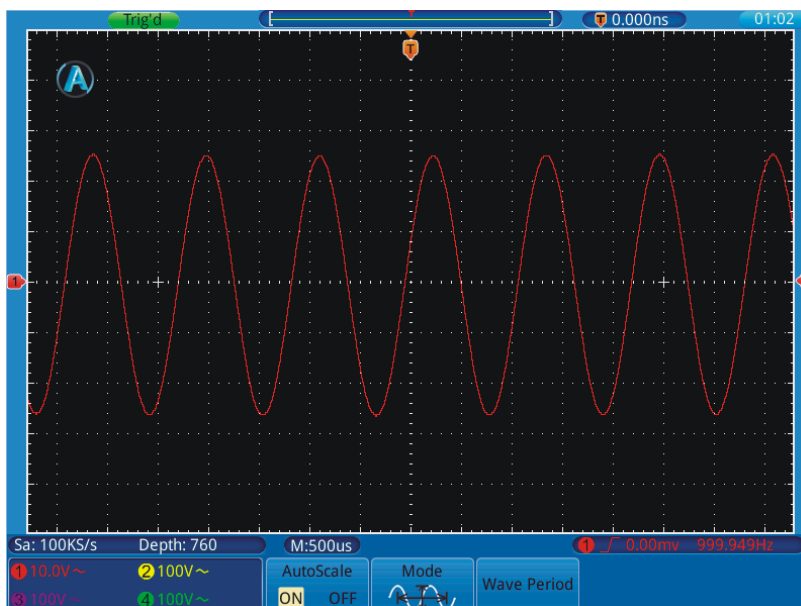

Figure 36. Autoscale Horizontal-Vertical multi-period waveforms.
- 4 Select **Wave Period** in the bottom menu, select in the right menu, shown as Figure 36.